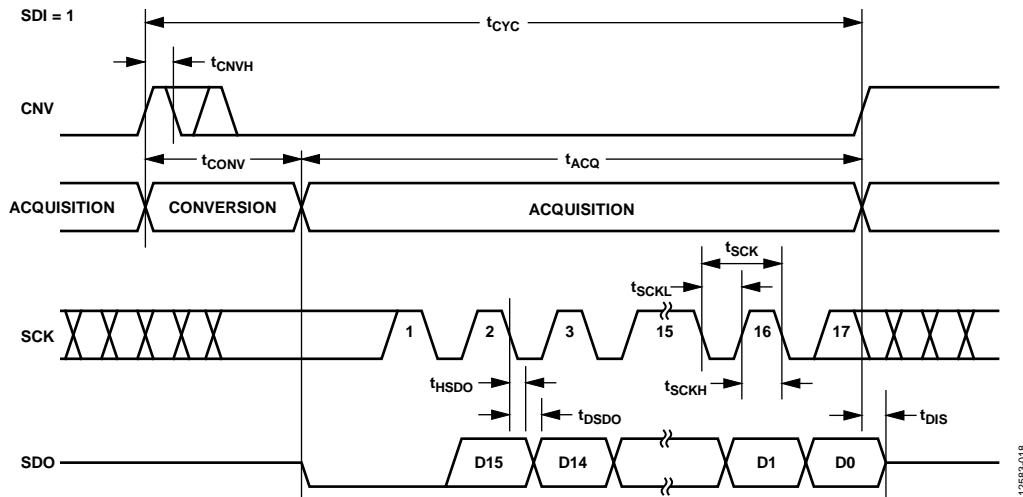
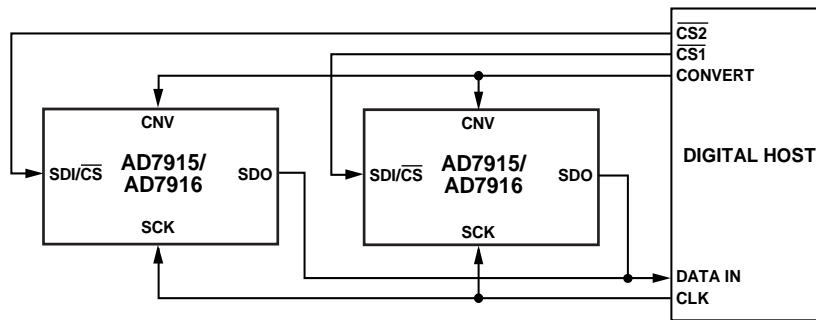
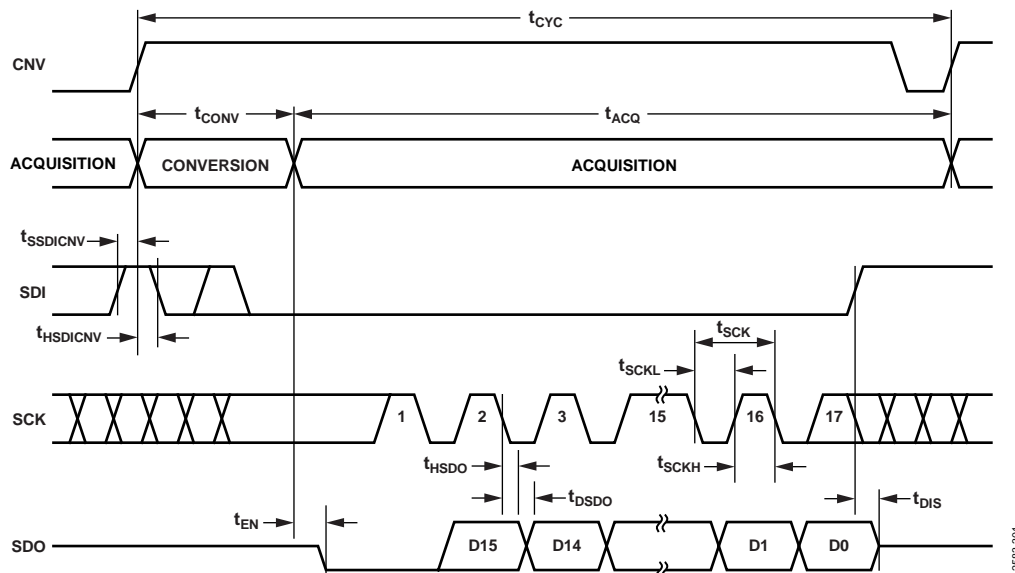
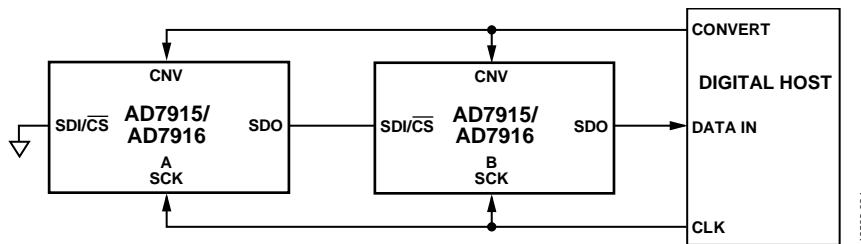

Figure 37. 3-Wire $\overline{\text{CS}}$ Mode with Busy Indicator Serial Interface Timing (SDI High)
Figure 38. CS Mode Without Busy Indicator, 4-Wire Connection Diagram
Figure 41. 4-Wire $\overline{\text{CS}}$ Mode with Busy Indicator Serial Interface Timing
Figure 42. Chain Mode Without Busy Indicator Connection Diagram
- in $\overline{\text{CS}}$ mode if CNV or SDI is low when the ADC conversion ends (see Figure 38 and Figure 42).
The connection diagram is shown in Figure 37, and the corresponding timing is given in Figure 38.
The connection diagram is shown in Figure 41, and the corresponding timing is given in Figure 42.